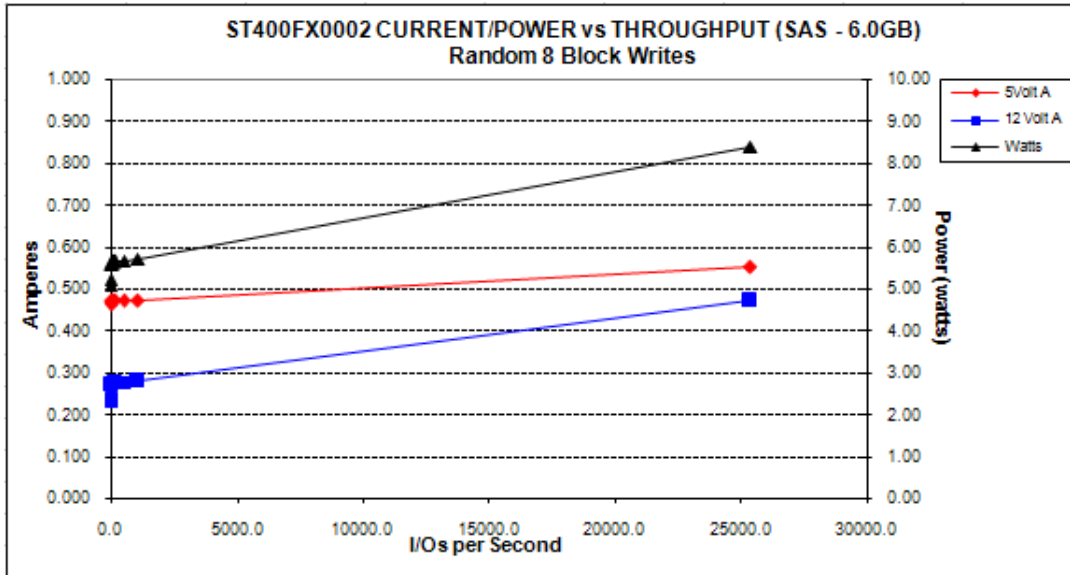
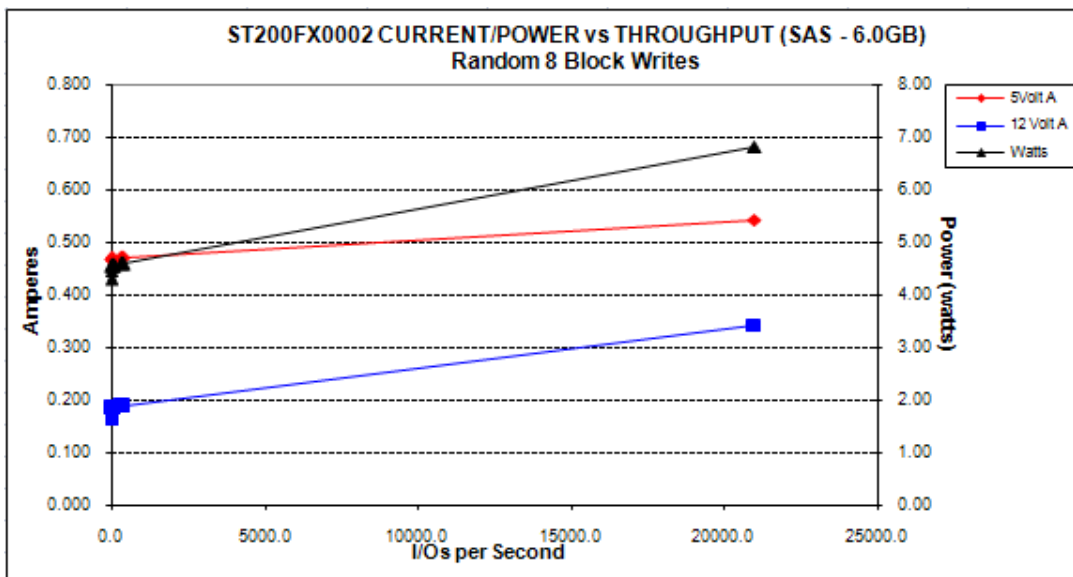

Figure 4. 400GB (at 6Gb) DC current and power vs. input/output operations per second
Figure 5. 200GB (at 6Gb) DC current and power vs. input/output operations per second
- [3] See +12V current profile in Figure 4 (for 400GB models) and Figure 5 (for 200GB models).
To obtain operating power for typical random write operations, refer to the following I/O rate curve (see Figure 4). Locate the typical I/O rate for a drive in your system on the horizontal axis and read the corresponding +5 volt current, +12 volt current, and total watts on the vertical axis. To calculate BTUs per hour, multiply watts by 3.4123.
To obtain operating power for typical random write operations, refer to the following I/O rate curve (see Figure 5). Locate the typical I/O rate for a drive in your system on the horizontal axis and read the corresponding +5 volt current, +12 volt current, and total watts on the vertical axis. To calculate BTUs per hour, multiply watts by 3.4123.